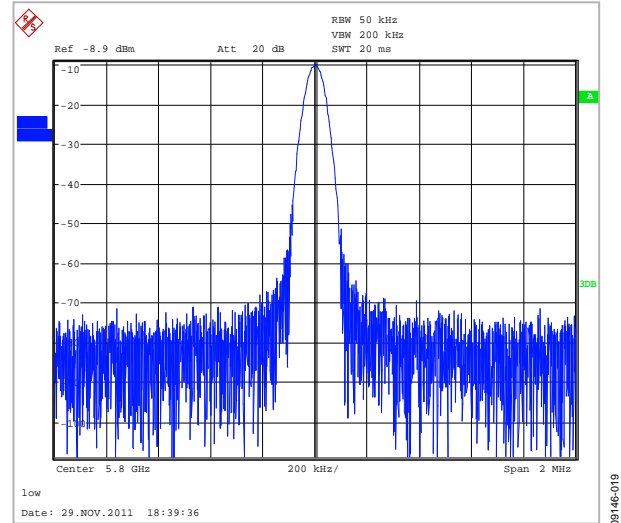

Figure 35. Spectrum Analyzer Display
9. Measure the output spectrum. Figure 35 shows a 5800 MHz output.